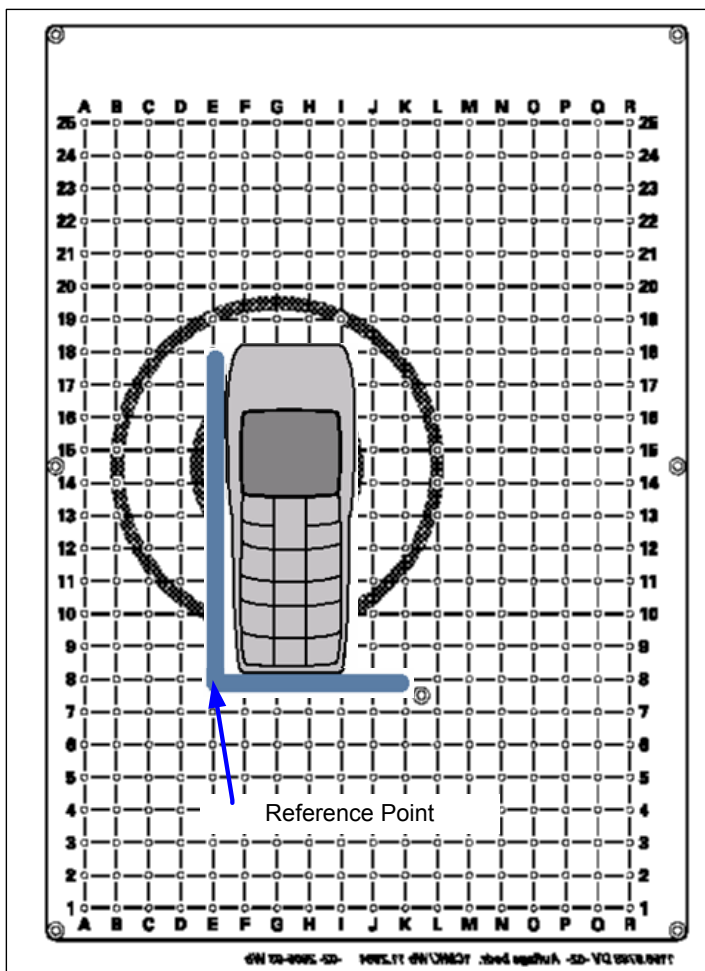

Fig. 10 L-shaped bracket and reference point
- The positioning plate with stabilizing pieces and L-shaped bracket has a grid with numbers 1 to 26 and alphabetic characters A to R. The ideal position of the bracket is usually the one with minimum coupling factors. You can move and turn the bracket in order to determine this ideal position for each mobile type (see section *Determining the Coupling Factors* on p. 12) and note the coordinates of the corresponding reference points (e.g. E8 in Fig. 10 below).